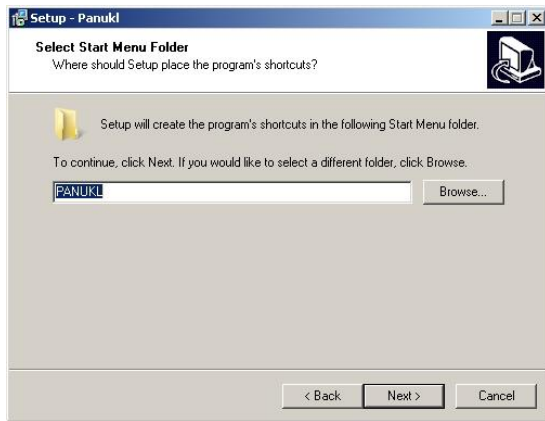

Fig. 22
**Step 5)** In next installation setup window user is asked to select **Start Menu** folder for program's shortcuts. Additionally one can choose program's start icon to create on **Desktop** and in **Quick Launch Bar** Fig. 22.